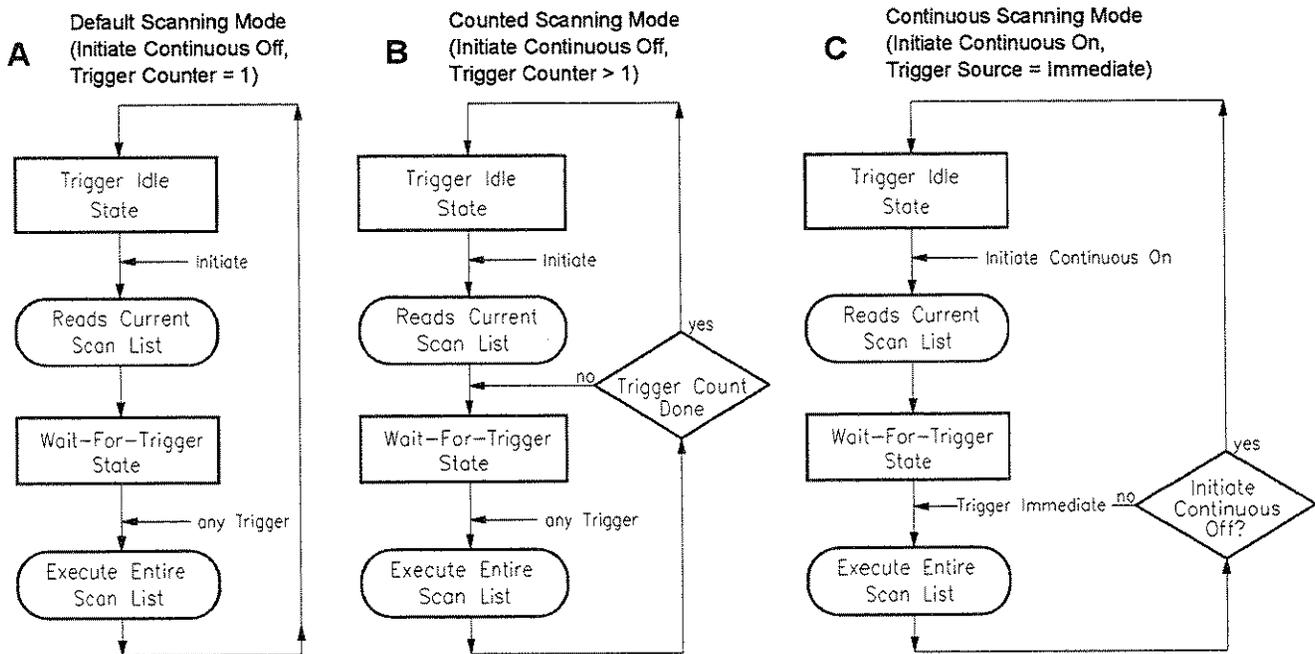

Figure 4-4. Scanning Modes
- The "Default Mode" is set when INITiate:CONTInuous is set to OFF, and the TRIGger:COUNT is set to 1. Power-on and the *RST command also set this mode. The sequence of events for this mode is shown in Figure 4-4 A. Note that starting at the trigger idle state, you must execute an INITiate command to begin each scan. The sequence also shows that the current scan list (as set by ROUTe:SCAN <scan_list>) becomes effective after the INITiate command.
- The "Counted Mode" is set when INITiate:CONTInuous is set to OFF, and the TRIGger:COUNT is set greater than 1. In this mode, a single INITiate command will allow as many scans as TRIGger:COUNT specifies. Note that TRIGger:COUNT can be from 2 to 32768 or INFinity. The sequence of events for this mode is shown in Figure 4-4 B. The sequence shows that the current scan list is only set at the start of the counted scan. This means that the current scan list can not be changed while the module is scanning. However, by specifying LISTL as the current scan list before INITiate:CONTInuous ON, the sequence of scan lists specified in LISTL will be executed.
- The "Continuous Mode" is set when TRIGGER:SOURCE is set to IMMEDIATE, and INITIATE:CONTINUOUS is set to ON. Note that executing INITIATE:CONTINUOUS ON not only sets the Continuous Mode but also initiates the module. To stop at the end of the current scan, execute the INITIATE:CONTINUOUS OFF command. The sequence of events for this mode is shown in Figure 4-4 C. The sequence shows that the current scan list is not read while the module is scanning. This means that the current scan list cannot be changed "on-the-fly". However, by specifying LISTL as the current scan list before INITIATE:CONTINUOUS ON, the sequence of scan lists specified in LISTL will be executed. This mode is the fastest since the module does not need to read the current scan list or check for the occurrence of a trigger event.